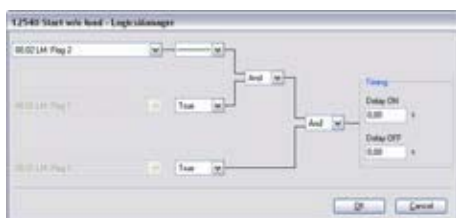

Fig. 159: LogicsManager function "Start without load"
3. ➤ The LogicsManager function "Start without load" (parameter 12540 ↗ p. 253) can be configured as shown in (Fig. 159).